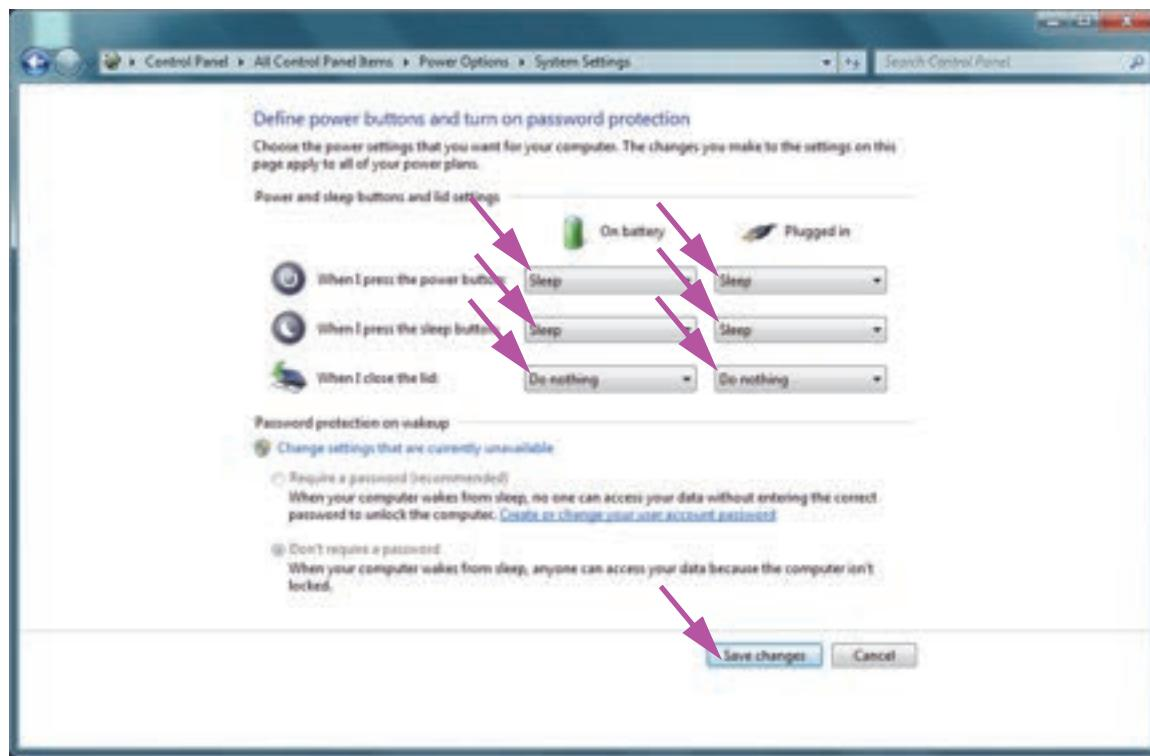

Figure 2-23. System Settings Window
9. **Laptops Only:** On the Power Options window, click the **Choose what closing the lid does** entry. The System Settings window appears (see Figure 2-23). Set the **When I close the lid** setting to **Do nothing**, and set all other settings to **Sleep** and click **Save Changes**.